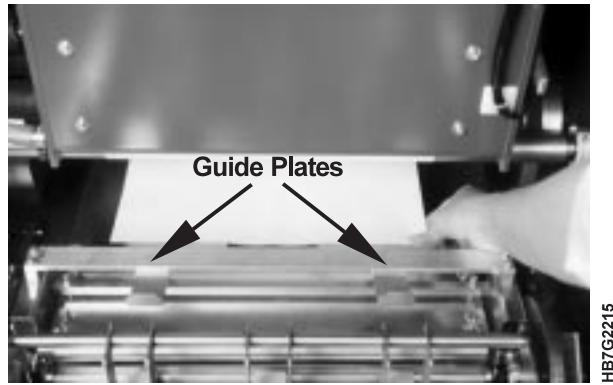

Figure 323. Cutter Assembly Guide Plates
- 25** Place the paper between the guide plates located at the back of the cutter assembly, as shown in Figure 323 on page 371.